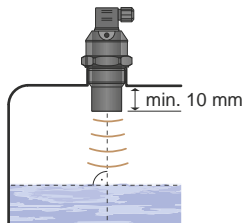

Fig. 1: Correct installation of the sensor, perpendicular to the liquid surface
- The device is installed in a vertical position into the upper lid of the tank or reservoir using a lug, a fastening nut or a flange in such a way that the axis of the device is perpendicular to the surface level of the measured liquid (Fig. 1). Tightening of the level meter in the welding flange (or. by the fixing nut) **must be done only by hand \***. The device shall be installed in places with no risk of **mechanical damage to the front of the sensor**.